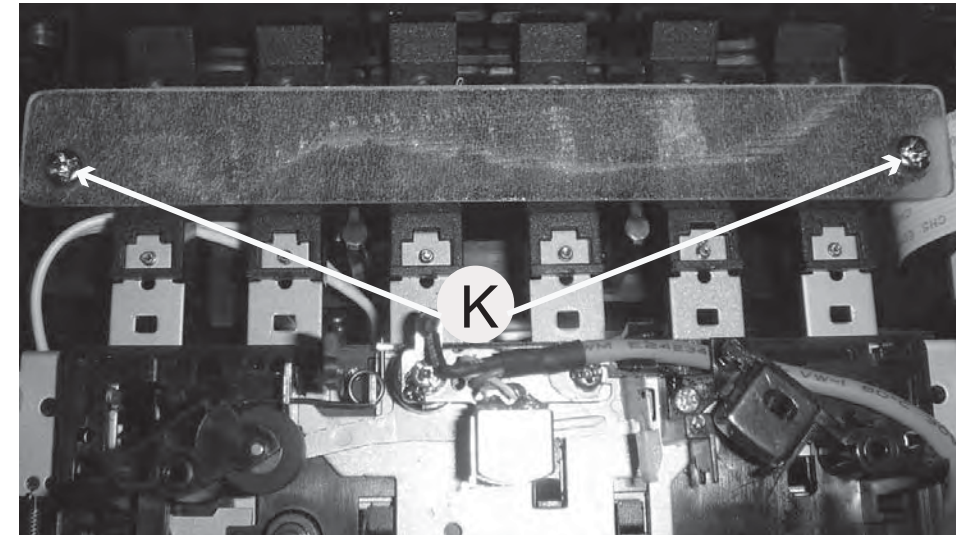

Figure 13
- 1) Loosen 2 screw " K " and remove the support sheet as shown in figure 13.